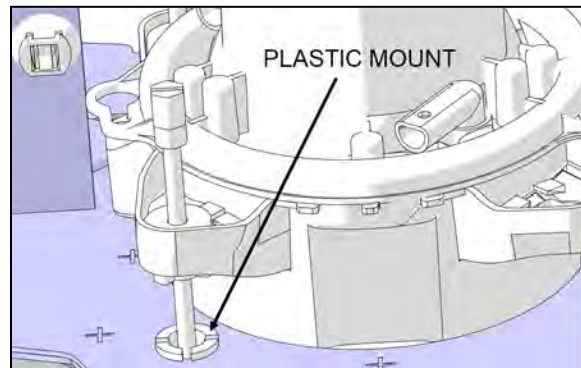

FIGURE 77: UNFASTEN PLASTIC MOUNTS
3. Using pliers, unfasten all plastic mounts from the headlight metal support (Figure 77).